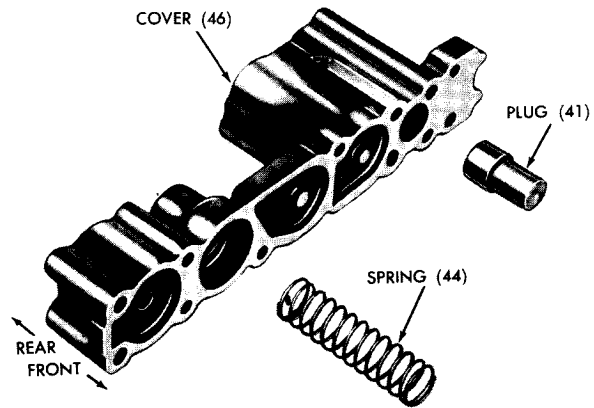

Fig. VIII-9 Control valve body rear cover, front end — exploded view
(10) Control valve body rear cover, front end (fig. VIII-9). Install plug 41 and spring 44 into cover 46.